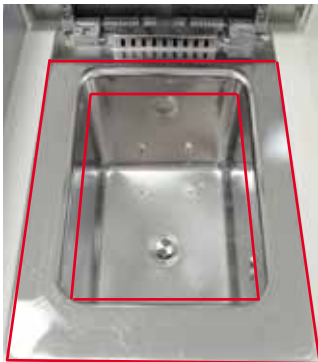

Fig. 71
- Remove residues of paraffin and reagent from the retort inside wall higher than the reagent level area and the area around the retort (→ "Fig. 71") after each cleaning program.